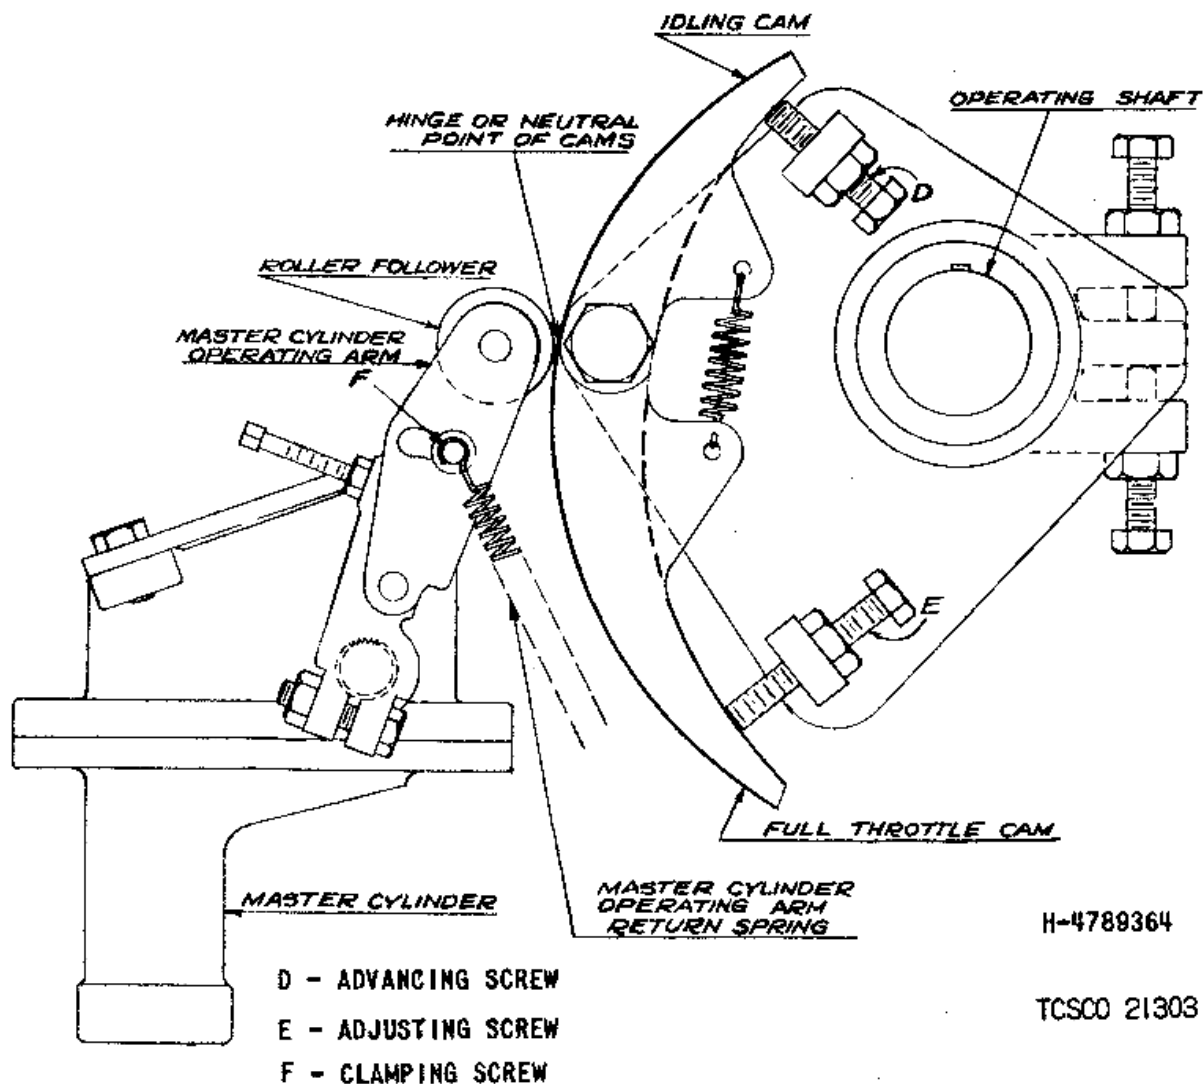
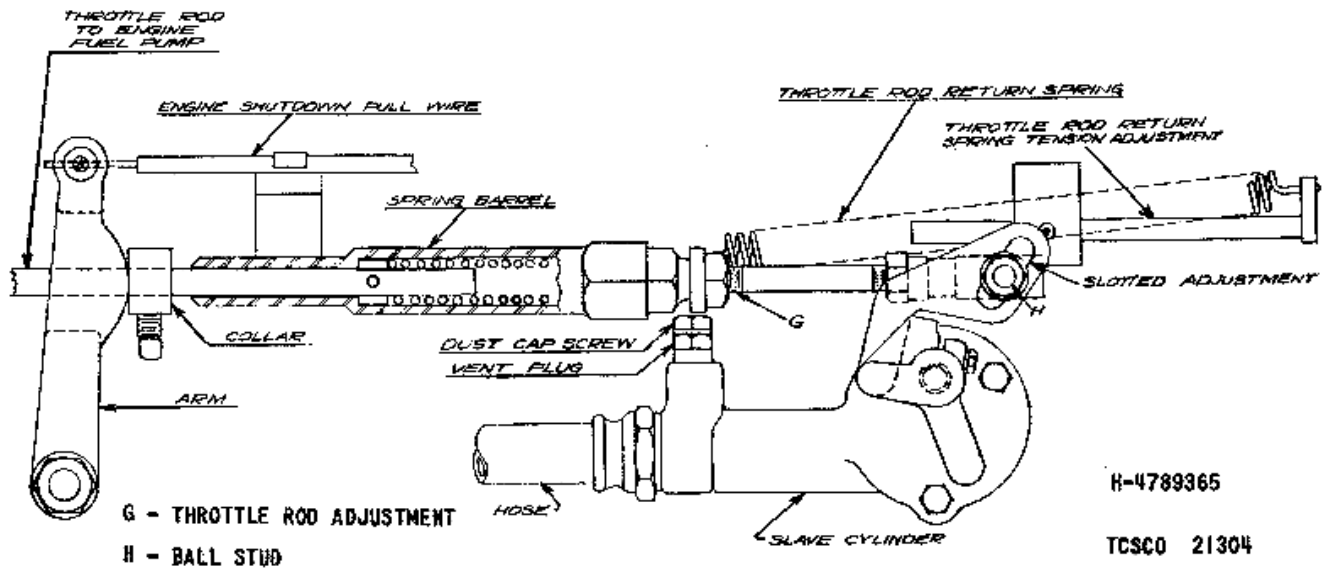

Figure 4. Master cylinder and cam arrangement used in hydraulic throttle control.
Figure 5. Slave cylinder and throttle rod arrangements used in hydraulic throttle control.
a. It is important that the engines idle at speeds that are high enough to allow the auxiliary generators to charge the batteries. For proper operation of the throttle system, it is also necessary that both the master and slave cylinders are at the extreme retracted or off end of their travel. In this position, both cylinders should be firm against internal stops. Be sure that the master cylinder operating arm clears the idling cam by at least one-thirty-second inch when the throttle handle is in the idle notch and the master cylinder is back against its internal stop (fig. 4).
b. Start with the ball stud H (fig. 5) set approximately in the center of the slotted adjustment. Then adjust the length of the throttle rod at G to obtain the following idling speeds for 65-ton locomotives
- (2) Take a full load curve for each generator, using a water box as load. For each curve, record generator voltage, load current, speed, and sufficient field voltage and current to indicate field resistance during test. (3) Before proceeding, see that the fuel control lever on the diesel engine fuel pump is tight against the full stop when the throttle handle is in the full throttle position. If not, advance the full throttle cam (fig. 4) and recheck until it is tight. b. Insert test resistors as shown on figure 7 in the self and separately excited field circuits to provide equivalent resistances to those encountered in service with a warm generator. Adjust the resistors to obtain the following values:
- (3) With the engines shut down, place the throttle handle at the point where the first step of separate excitation resistance has been added (4 1/16-in. ± 1/4-in. up the quadrant), then rotate the operating cams by means of adjusting screws A until the roller follower falls on the hinge or neutral point between the two halves of the cam as shown on figure 5.
- (4) Make sure the engines are in operating condition, then start the one that is to be checked first, set the brakes so the locomotive cannot move, bring the throttle handle up to the first running position (all throttle switch fin-
- (7) Partial throttle adjustments at the point where the first step of separate excitation resistance is added and higher should be made with the locomotive connected to a water box. The load setting corresponds to the current and voltage that would be obtained if the generator was loaded on stalled motors; however, the load is somewhat too high to be held on stationary motors for a long enough time to be able to obtain a satisfactory reading and, in addition, the brakes could not hold the locomotive at standstill.
- (8) If the traction generator is connected to a water box, make adjustments as described below:
- (b) If speed and load are low, increase the engine fuel setting by advancing the master cylinder jointed operating arm (fig. 4). Increasing the resistance of generator field resistor R14-R15 by moving the sliding band R15 only, will also help to correct this condition. This permits the engine speed to rise, which in turn will increase the generator voltage for the given current (880 amps.). If speed and load are high, follow the reverse procedure.
- (9) DO NOT ATTEMPT TO MAKE ANY ADJUSTMENTS WHILE HOLDING THIS LOAD. Return the throttle handle to the idle position, make any changes that may be required, then recheck the load.
- (10) After obtaining a satisfactory setting, return the throttle handle to the idle position and advance the idle cam to within onethirty-second inch of touching the roller follower. Make this adjustment by advancing screw D (fig. 4). THE ROLLER FOLLOWER MUST CLEAR THE CAM WHEN THE THROTTLE HANDLE IS IN THE IDLE POSITION.
- (11) With the engine running without load, place the throttle handle in the full throttle position and see that the fuel control lever on the diesel engine fuel pump comes up against the full fuel stop. The spring in the spring barrel (fig. 5) should be compressed one-sixteenth to one-eighth inch under these conditions. If not, advance or retract, as required, the full throttle section of the operating cams by means of adjusting screw E (fig. 4) until the desired results are obtained. If adjustments to equalize the load distribution are made without the benefit of a water box, the above procedure should be observed except it is desirable to operate
- e. After completing adjustments for each end of the locomotive, check the entire throttle system to be sure all locking devices are tight and that all lockwashers are in place, particularly clamping screw F (fig. 4).
- f. Place the throttle handle in the full throttle position, see that the fuel control lever on the diesel engine fuel pump is against the full fuel stop screw, then locate the collar on the throttle rod to clear the engine shutdown operating arm by approximately one-sixteenth inch (fig. 5). Do this with the operating arm at its extreme forward position (toward the fan end of the engine), then tighten the set screw clamping the engine shutdown pull wire in the arm. Start the engines and see that they will shut down from idling speed when the engine shutdown knob in the operator's cab is pulled.